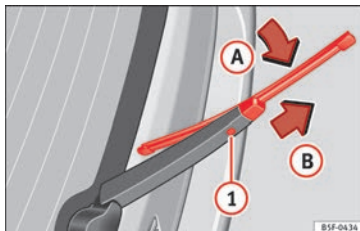

Fig. 81 Changing the rear wiper blade
- Turn the blade slightly » » » Fig. 81 (arrow A).
- Hold down the release button ① while gently pulling the blade in the direction of arrow B.
- Insert a new blade of the **same length and type** in the rear wiper arm in the opposite direction to the arrow B and hook into place button ①.